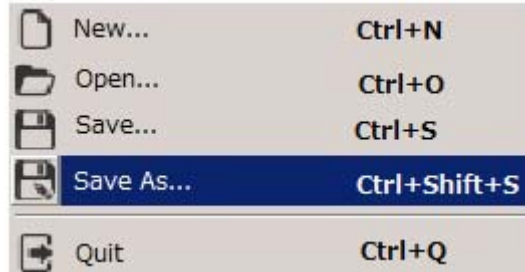

Figure 7-50 Save project file
- b) Click Save As. (Figure 7-50)